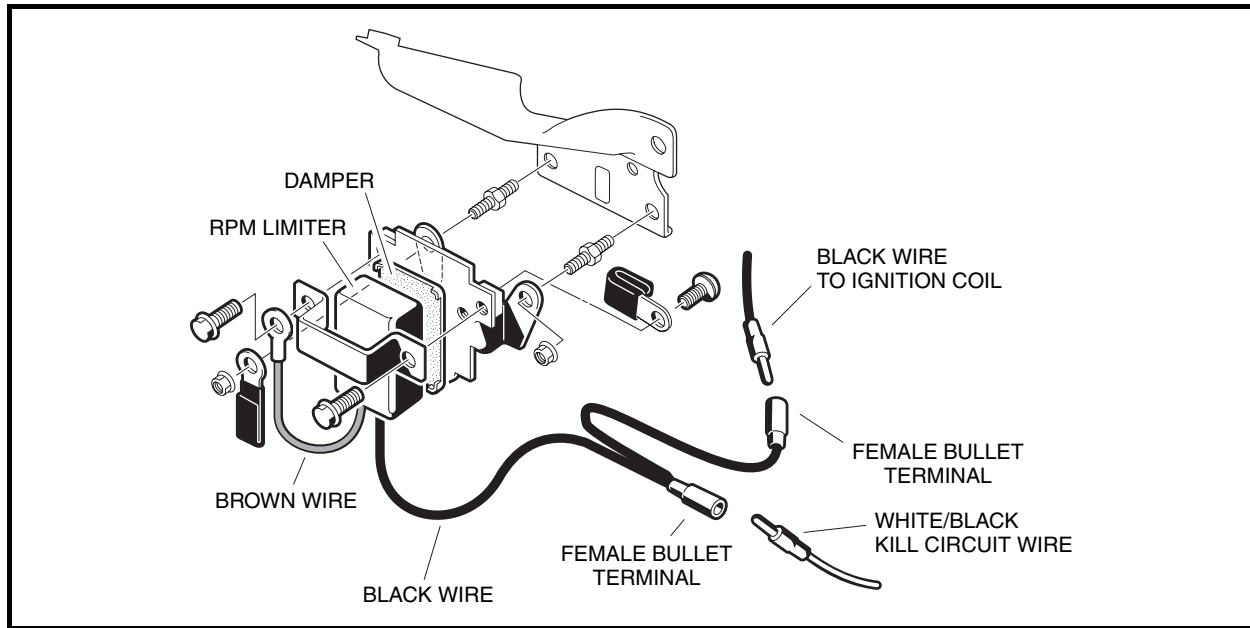

Figure 12-23 RPM Limiter Assembly
3. Disconnect the white/black wire from the black wire at the bullet connector located near the RPM limiter (**Figure 12-23, Page 12-23**).
5. Remove the flange head bolts from the RPM limiter band and remove the RPM limiter and damper (**Figure 12-23, Page 12-23**).
2. Place the RPM limiter with damper on the front of the RPM limiter mounting bracket (**Figure 12-23, Page 12-23**).